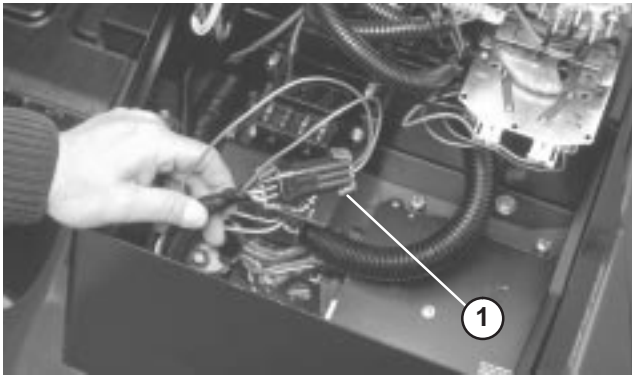

Figure 37
2. Open control panel cover. Locate wire harness and connectors near controller (Fig. 37). Carefully unplug loop back connector from harness connector.